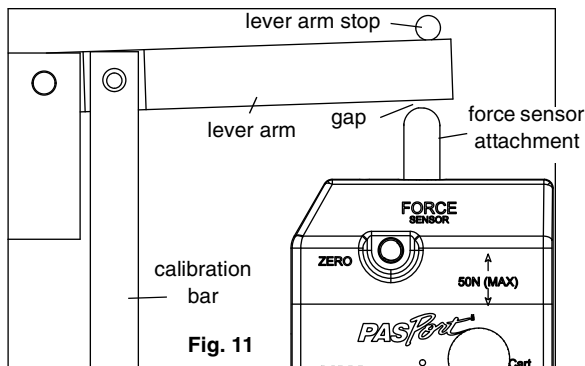

Fig. 11
2. **Place the lever arm in the starting position.** Turn the crank counter-clockwise and pull the lever arm away from the Force Sensor (Figure 11).
- Remove the calibration bar from the bolts. Replace the spring, clamp top, concave washer, convex washer, flat washer, and hex nut onto the bolts (Figure 11).